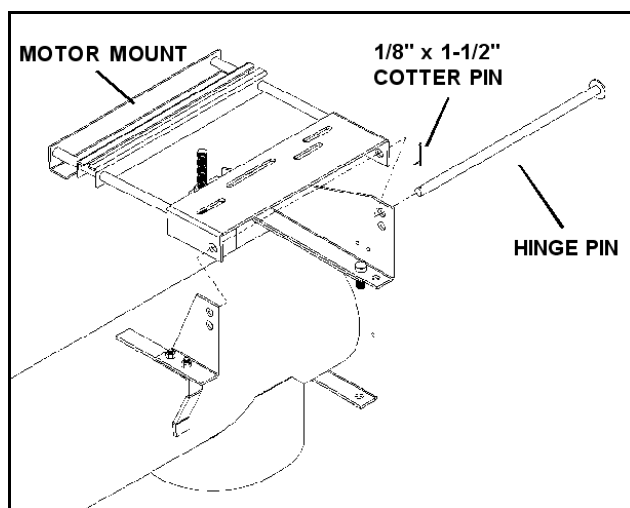

Figure 4.29
4. Place motor mount assembly in between the two mount plates and insert hinge rod (Figure 4.29). Secure hinge rod with a 1/8" x 1-1/2" cotter pin.